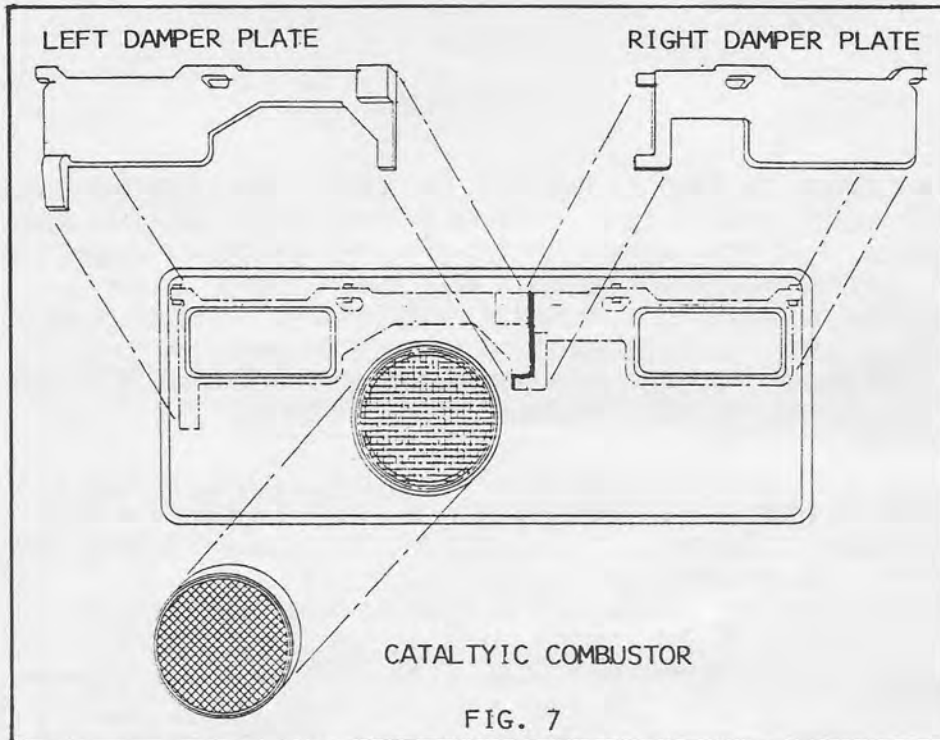

FIG. 7
- D. INSTALL THE RIGHT BY-PASS DAMPER AND THEN THE LEFT BY-PASS DAMPER (SEE FIG. 7).
- F. CAREFULLY PLACE THE CATALYTIC COMBUSTOR INTO THE CAST IRON HOLDER, AS SHOWN IN FIG. 7, AND PLACE THE 1/8-INCH THICK CERAMIC INSULATION BETWEEN THE STAINLESS STEEL SHELL OF THE CATALYST AND THE CAST IRON HOLDER.